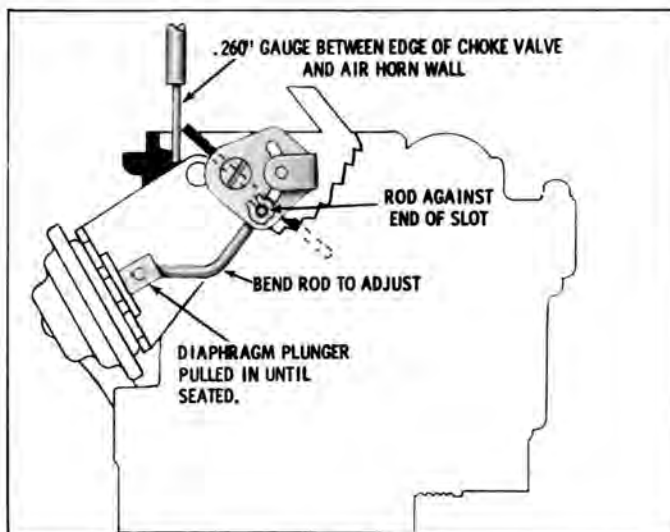

Fig. 13
3. Push choke valve closed until vacuum break control rod is at the end of the slot in the choke shaft lever, see Fig. 13.